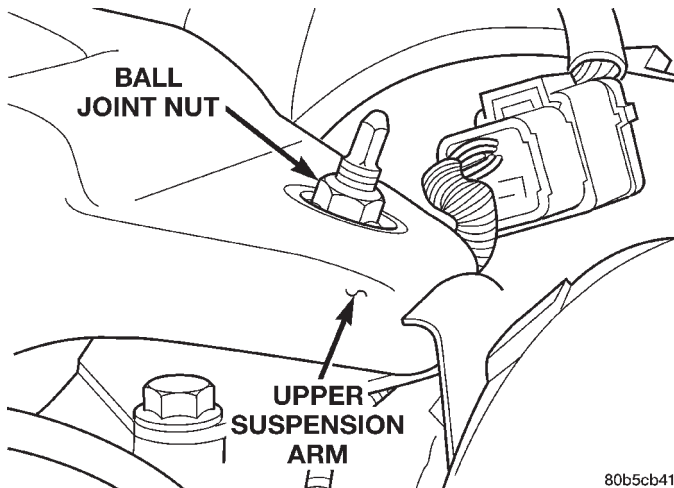

Fig. 11 Ball Joint Nut
- (1) Raise and support the vehicle.
- (2) Support the rear axle with a hydraulic jack.
- (3) Remove the ball joint nut from the top of the upper suspension arm (Fig. 11).